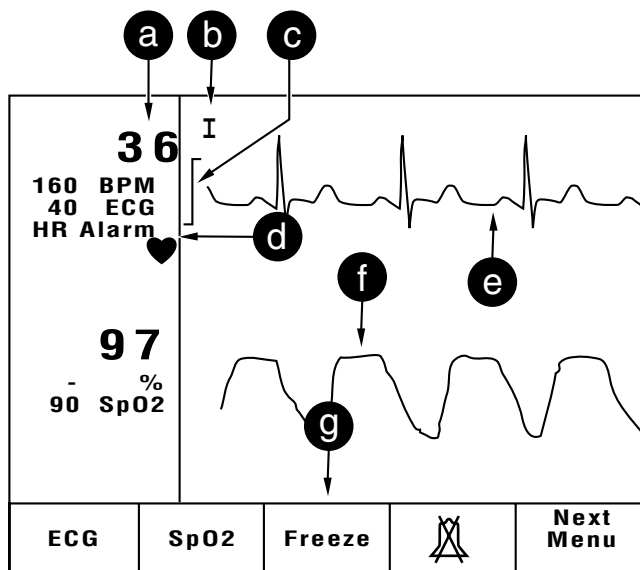

Figure 6-5. Main display
- the alarm cause is shown in the display (**d**, Figure 6-5)